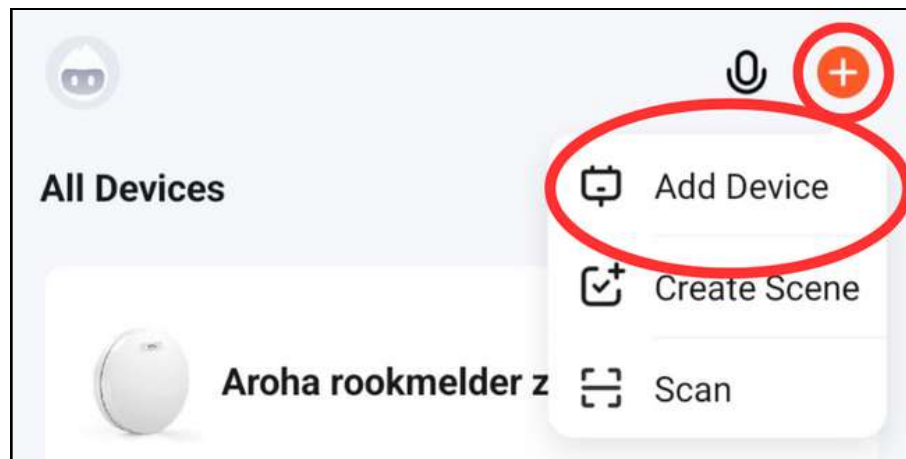

Figure 1: Add Device in app
5. Click on the "+" in the top right corner of the app home screen. Then choose "Add device", as you see in Figure 1. The app will now automatically look for devices that are in pairing mode. Follow the steps as described in the app.